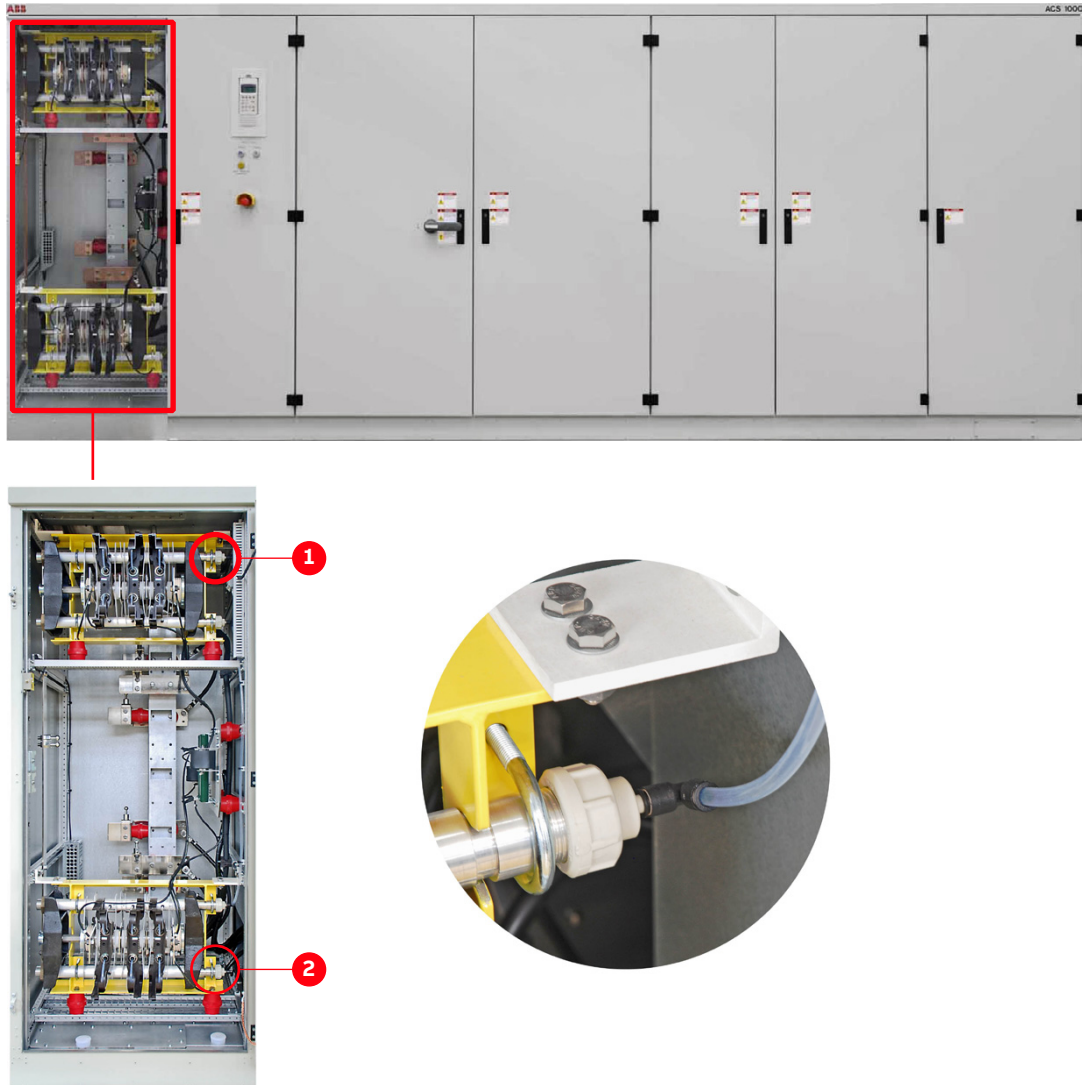

Figure 6-4: Installing the cabinet with the second rectifier cabinet
2. Connect the water tubes (1 and 2 in Fig. 6-4).